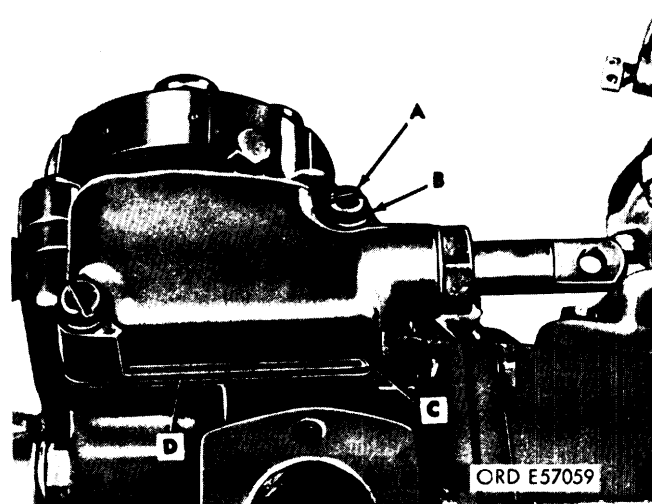

Figure 3-2. Removing timing windows cover and fuel shutoff rod (all pumps except code A).
3-5. Removal of Timing Window Cover and Fuel Shutoff Rod Assembly (All Except Code A Pumps). Refer to figure 3-2. Remove two fillister-head screws (A) and lockwashers (B). Remove timing window cover and fuel shutoff rod assembly (C). Remove and discard timing window cover gasket (D).